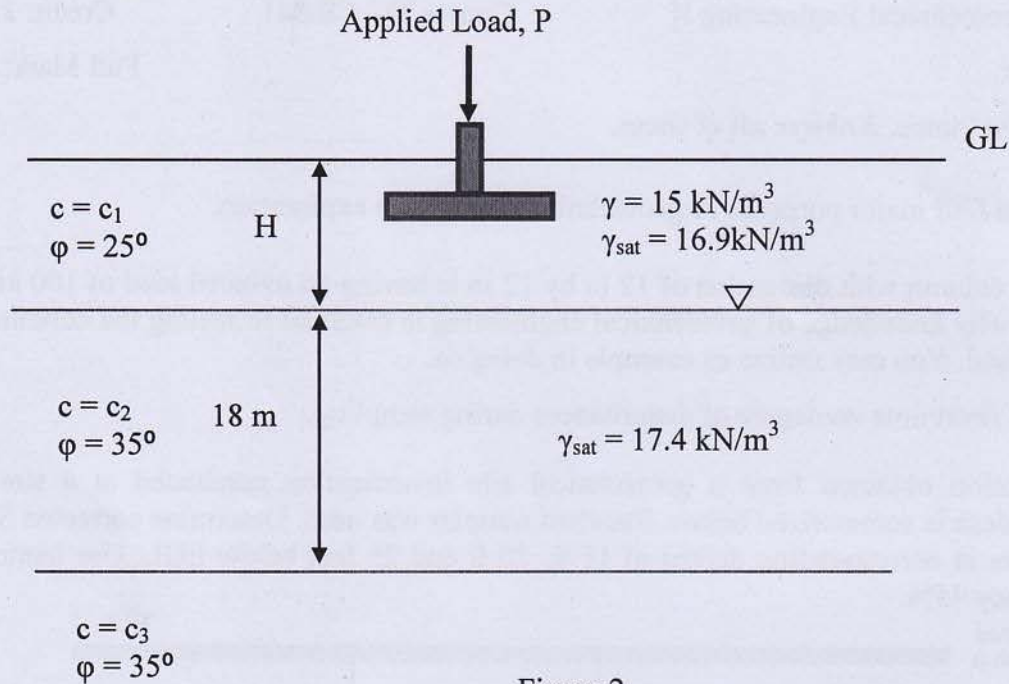

Figure 2
2. A rectangular individual footing, placed at a depth 1.8 m below the ground level, will transfer loads to soil (Figure 2).